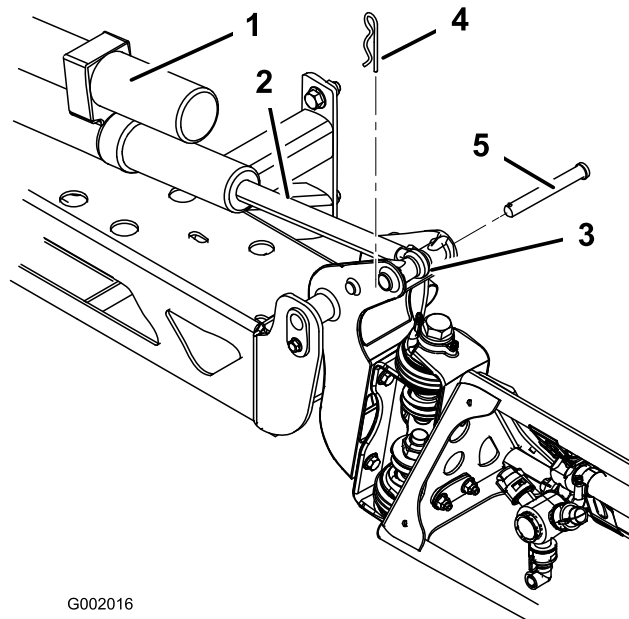

Figure 18
2. Remove the cotter pin from the pivot pin (Figure 18).
3. Lift up on the boom and remove the pin (Figure 18). Slowly lower the boom to the ground.
6. Raise the boom to align the pivot with the actuator rod. While holding the boom, insert the pin through both boom pivot and actuator rod (Figure 18).